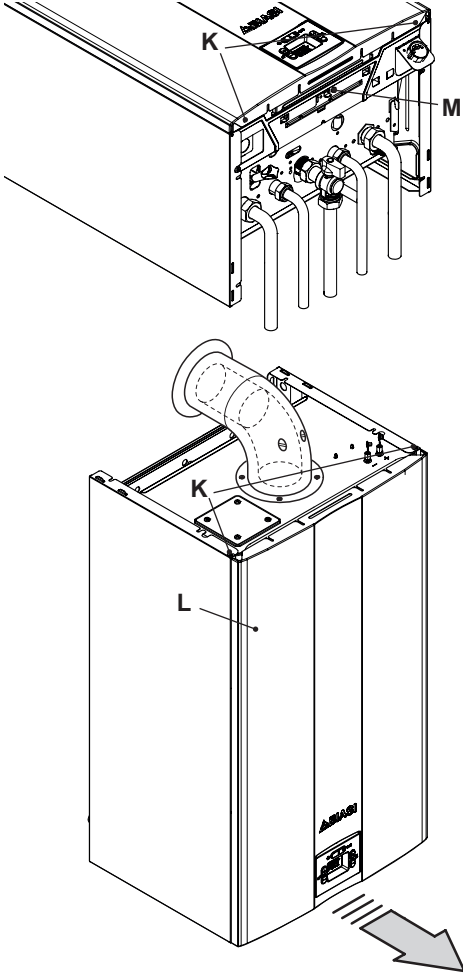
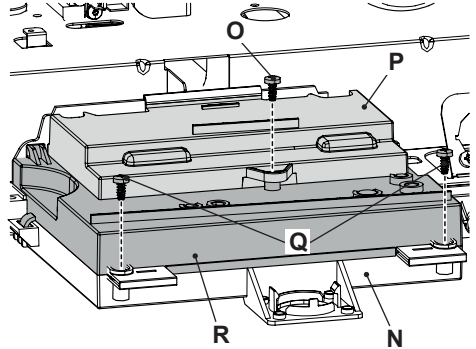

Figure 5.18
Figure 5.19
- Unscrew the screws **K** and remove the front panel **L** by pulling it towards you Figure 5.18.
- Unscrew the screw **M** (Figure 5.18) and turn the control panel **N**, as shown in Figure 5.19.
- Unscrew the screw **O** and lift the cover **P** to release the cables from the cable gland (Figure 5.19).
- Loosen the screws **Q** and lift the cover **R** (Figure 5.19).